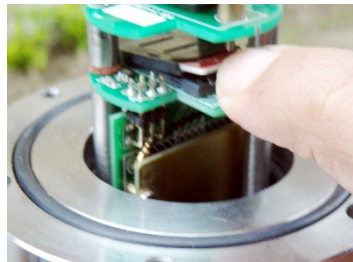

Figure 8-21: SIM installation
- Place data SIM in slot as per figure 8-21.